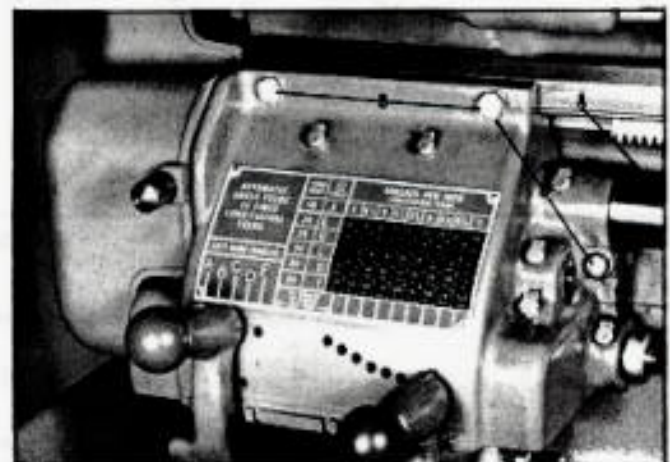

Fig. 40.
1. Disengage lead screw from gear box by loosening set screw (A) Fig. 40 and moving lead screw to the right a few inches.
2. Remove three screws (B) Fig. 40 and remove gear box from the lathe.